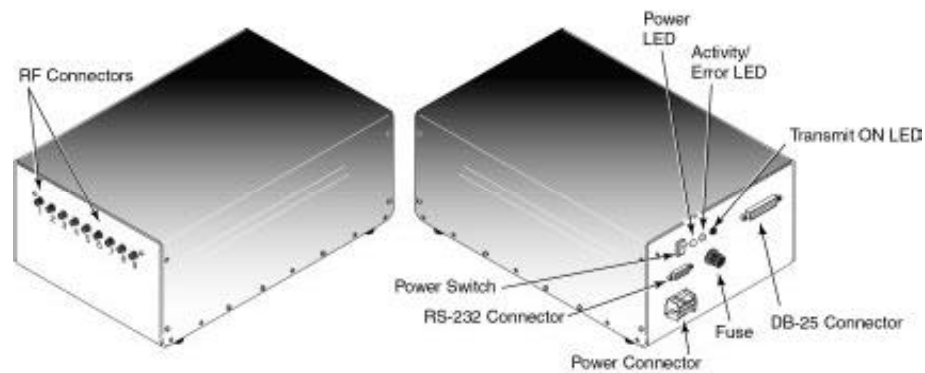

Figure 3. U519 InstaScan Scanner
The scanner provides the connectors and LEDs described in the following sections and shown in Figure 3.
1. Attach the male connector on the serial cable to the 9-pin serial connector on the scanner's front panel (see Figure 3).